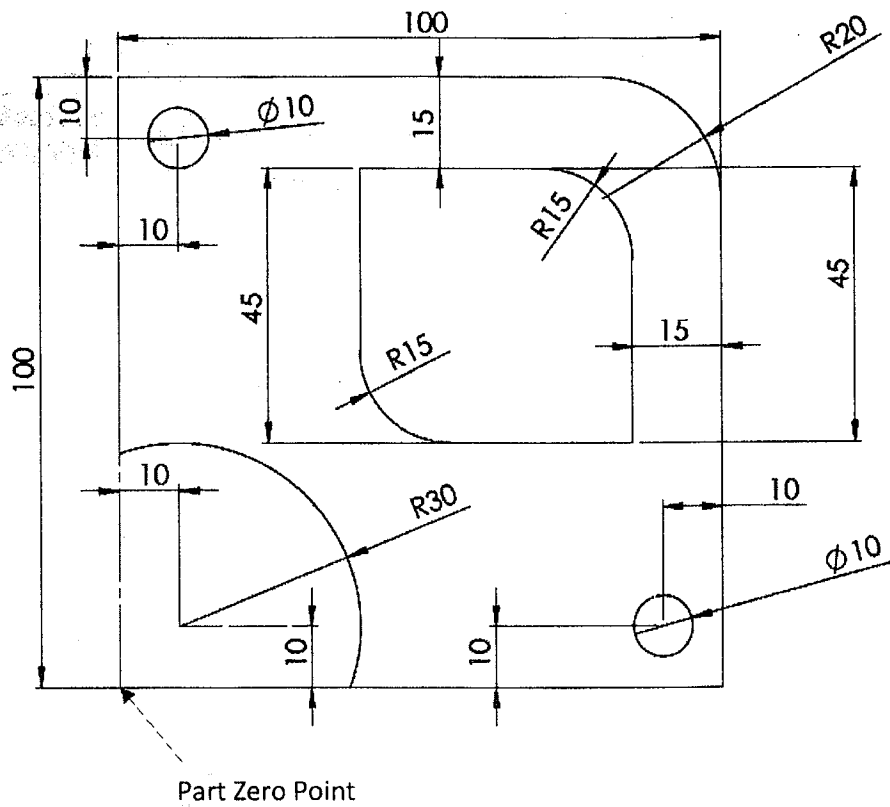

Figure 01
- c. Write the G-Code program for the following part shown in Figure 01 considering the points given in below.